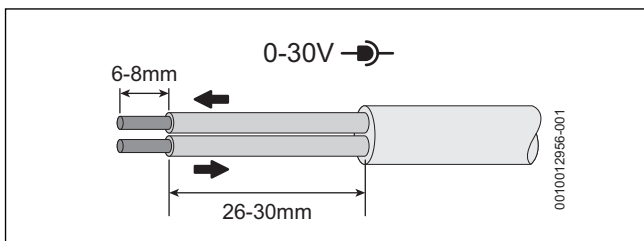

Fig. 56 Low voltage (signal cables) preparation
**Low voltage (signal cables), example → figure 56**